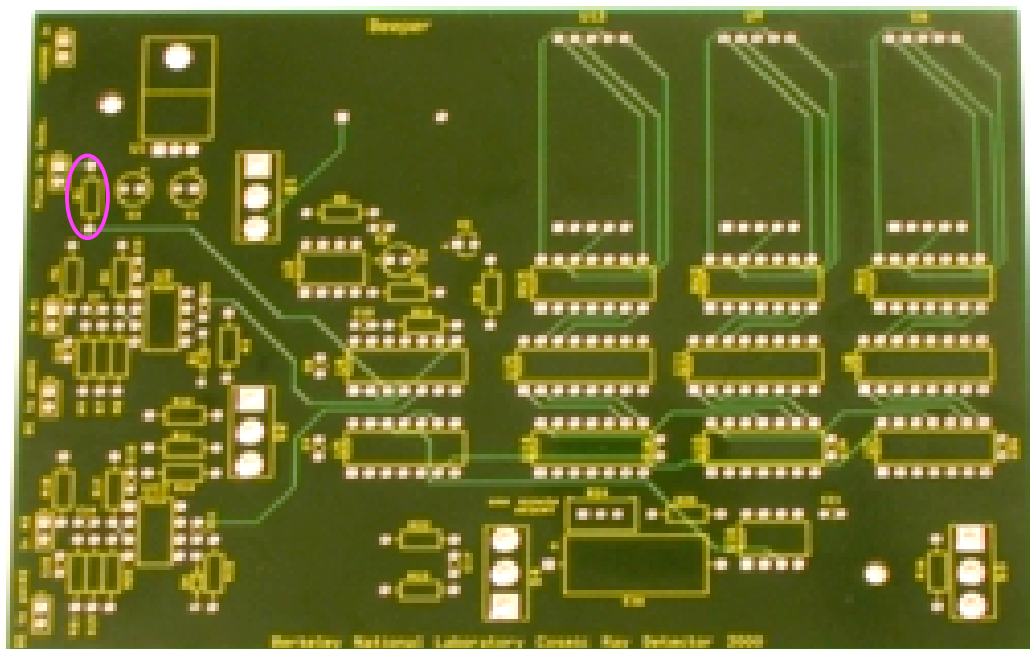

Figure 19: Circuit board with R1 highlighted.
1. **Locate R1 on the circuit board and insert the 51 Ω resistor (Item 1) into it (Figure 19).** The resistor should sit on the label side of the board. Be sure to bend the wires slightly on the other side such that the resistor will hold in place. See Appendix B for color codes on resistors.